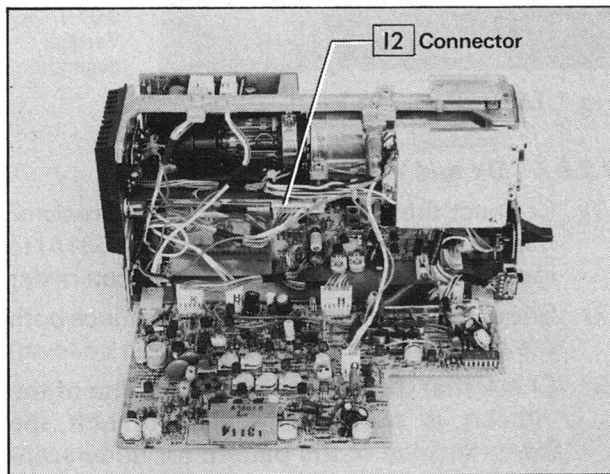

Fig 7.9 Location of **I2** (CA 3501A)
- (1) Set POWER switch to the OFF position and remove the shield case from the components side of the SSG and Encoder PCB (CA 3501A)
- (2) Set POWER switch to the ON position and connect the frequency counter probe between point **I2** (IC 01 27 PIN line of CA 3501A) as shown in Figure 7.9 and earth
- (3) Adjust C06 **SC FREQ** on CA 3501A until frequency counter reads $4.43362\text{MHz} \pm 10\text{Hz}$.